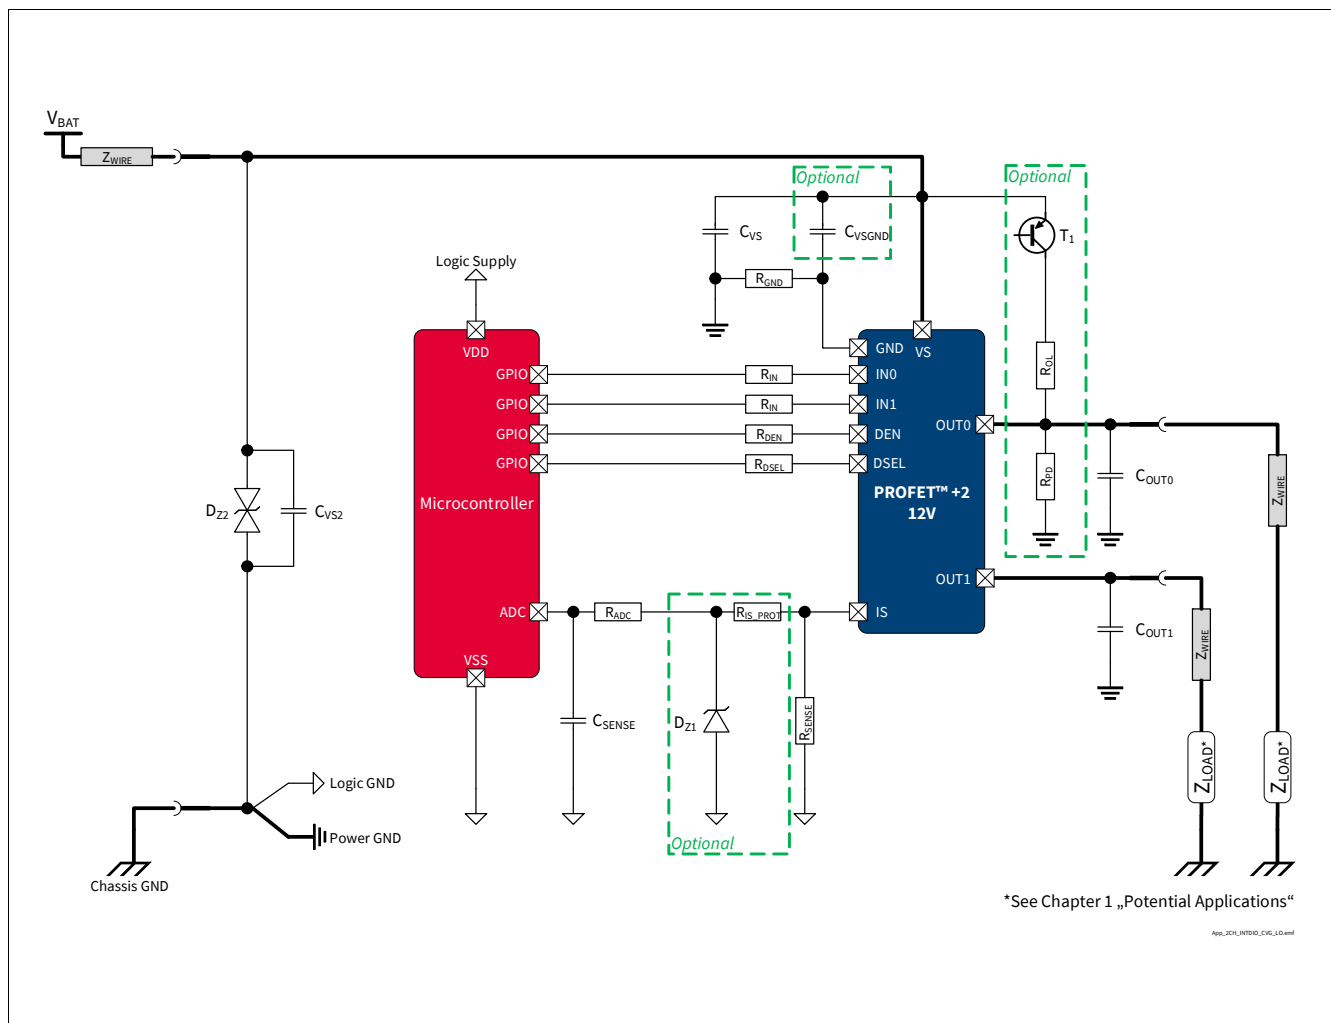

Figure 43 **BTS7030-2EPA Application Diagram**
1.05 , 2019-10-15	P_8.7.5.1, P_8.7.5.7, P_8.7.5.8 updated (added in Note or Test Condition: link to Figure 25) P_7.5.5.4, P_7.5.5.5 updated (added in Note or Test Condition: DEN = “low”; link to Figure 19) P_7.5.5.12 updated (added in Note or Test Condition: see Figure 21 ; deleted unnecessary space in Symbol: $ dV_{OUT} / dt \rightarrow dV_{OUT} / dt $) P_8.7.5.6 updated (added in Note or Test Condition: see Figure 26) P_9.7.5.1 updated (added in Note or Test Condition: See Figure 34) P_9.7.5.6 updated (Min./Typ./Max.: -40%/2700/+40% → -27.5%/2675/+27.5%) P_9.7.5.8 updated (Min./Typ./Max.: -35%/2700/+35% → -23.5%/2675/+23.5%) P_9.7.5.9 updated (Min./Typ./Max.: -31%/2700/+31% → -22.0%/2675/+22.0%) P_9.7.5.12 updated (Min./Typ./Max.: -28%/2700/+28% → -21.5%/2675/+21.5%) P_9.7.5.15 updated (Min./Typ./Max.: -16%/2700/+16% → -10.0%/2675/+10.0%) P_9.7.5.18 updated (Min./Typ./Max.: -7%/2700/+7% → -5.5%/2715/+5.5%) P_9.7.5.20 updated (Min./Typ./Max.: -5%/2700/+5% → -3.8%/2715/+3.8%) P_7.5.5.11 updated (added in Note or Test Condition: see Figure 19) Figure 1 , Figure 43 updated Chapter 1 updated (or LED equivalent → or equivalent electronic loads (e.g. LED modules)) P_4.3.0.7 added Table 24 updated Chapter 5.1 updated (added: see Chapter 10 for the complete application setup overview)